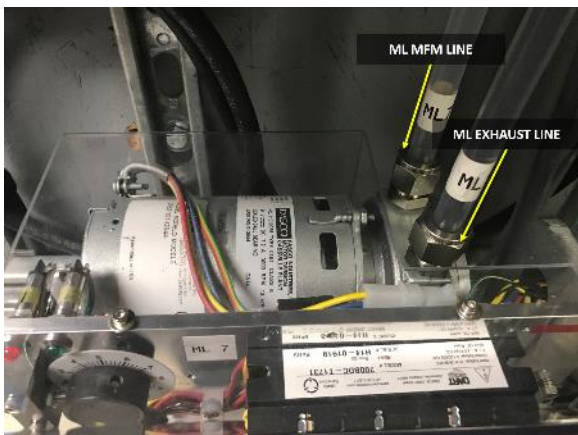

Figure 40. Reconnect Gas Lines.
STEP 8 | Reconnect the exhaust gas lines to the MFM/ML and the exhaust (the exhaust line is usually darker from the graphite in the pump). See Figure 40 for orientation.